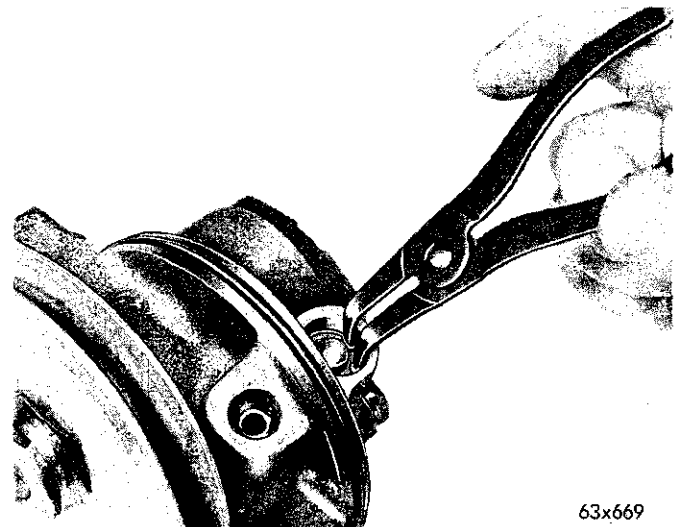

Fig. 10—Removing the Flow Control Valve Retaining Ring
(1) With the pump reservoir removed, remove one of the flow control valve end plug retaining rings and end plug (Fig. 10).
(2) Depress the control valve against spring pressure and allow it to spring back. The valve should pop out of the bore to a point where it can be removed. If the valve should stick, do not force it, but repeat the spring back procedure several times.